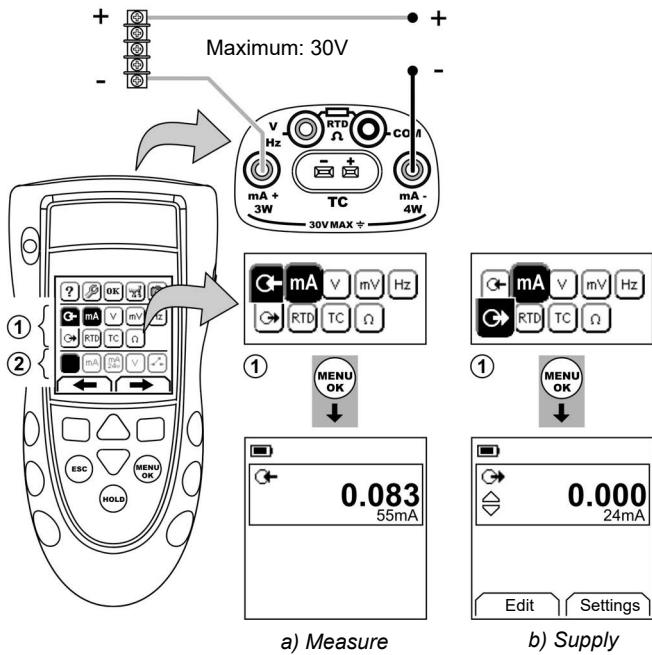

Figure 1: Example configuration - To measure/supply mA with external loop power (Area ①)
1. Connect the instrument (Figure 1, 2 or 3) and, if necessary, adjust the Set Up (Table 1).